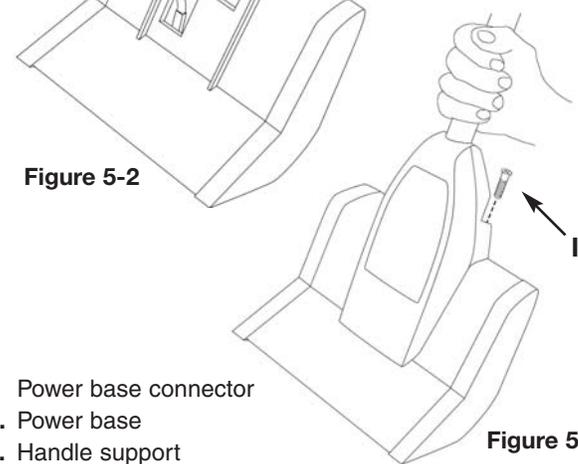

Figure 5-2
1. Position the power base (G) beneath the handle support (H) as shown in Figure 5-2.